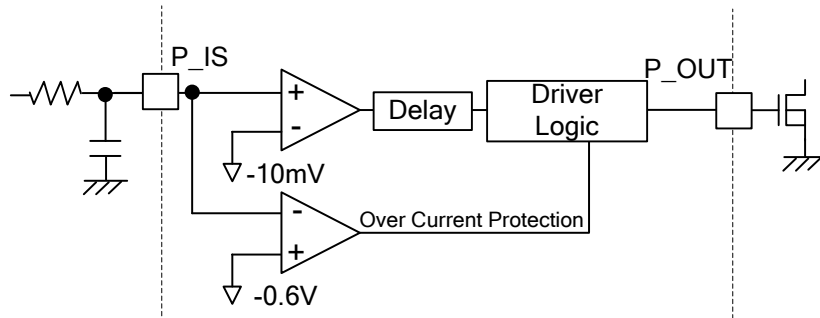
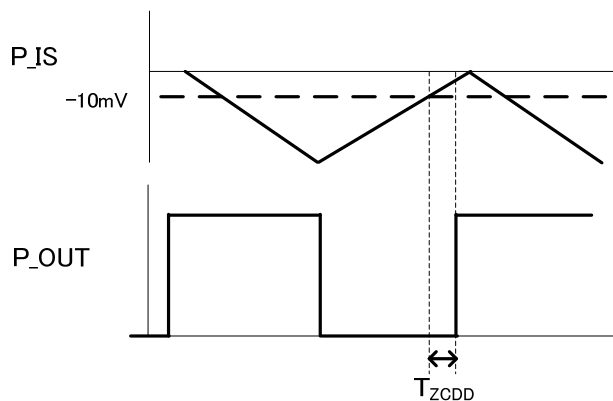

Figure 31. Current Detection Circuit of P_IS Terminal
Figure 32. P_IS Zero Current Detection Delay Time
Zero current detection circuit is the function that detects zero cross of PFC inductor current (IL). (Shown in Figure32) The voltage of P_IS pin becomes more than the voltage of zero current detection and P_OUT output turn ON after it is passes for Delay time.
The maximum ON width which set in Figure 31 needs to set more than T_{MAXON} width which shows above. In order to improve the efficiency in a light load, the frequency rising in a light load is limited to set value at P_RT pin, by the maximum frequency of Figure 32.